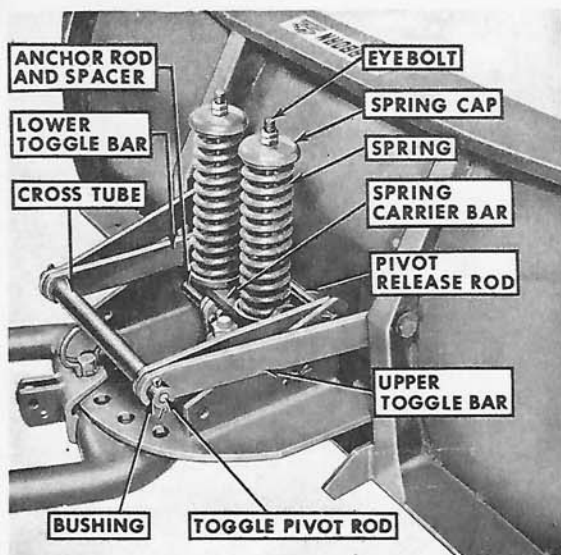

Figure 4
**Blade Pitch:** The pitch of the blade is adjusted in the same manner as described for the Angle Dozer if the spring kit is not to be used on the blade. With spring kit installed, however, the upper toggle bars must be set at the lower holes in the ribs of the Blade Snow Plow as shown in Figure 4.